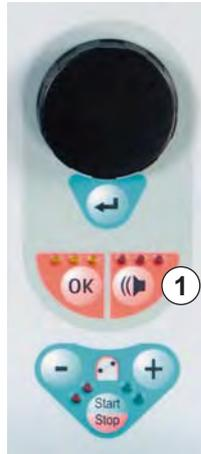

Fig. 10-2 *Alarm* key with red LEDs
Additionally, an active alarm is indicated by the red LEDs lighting above the *Alarm* key (Fig. 10-2, ①).